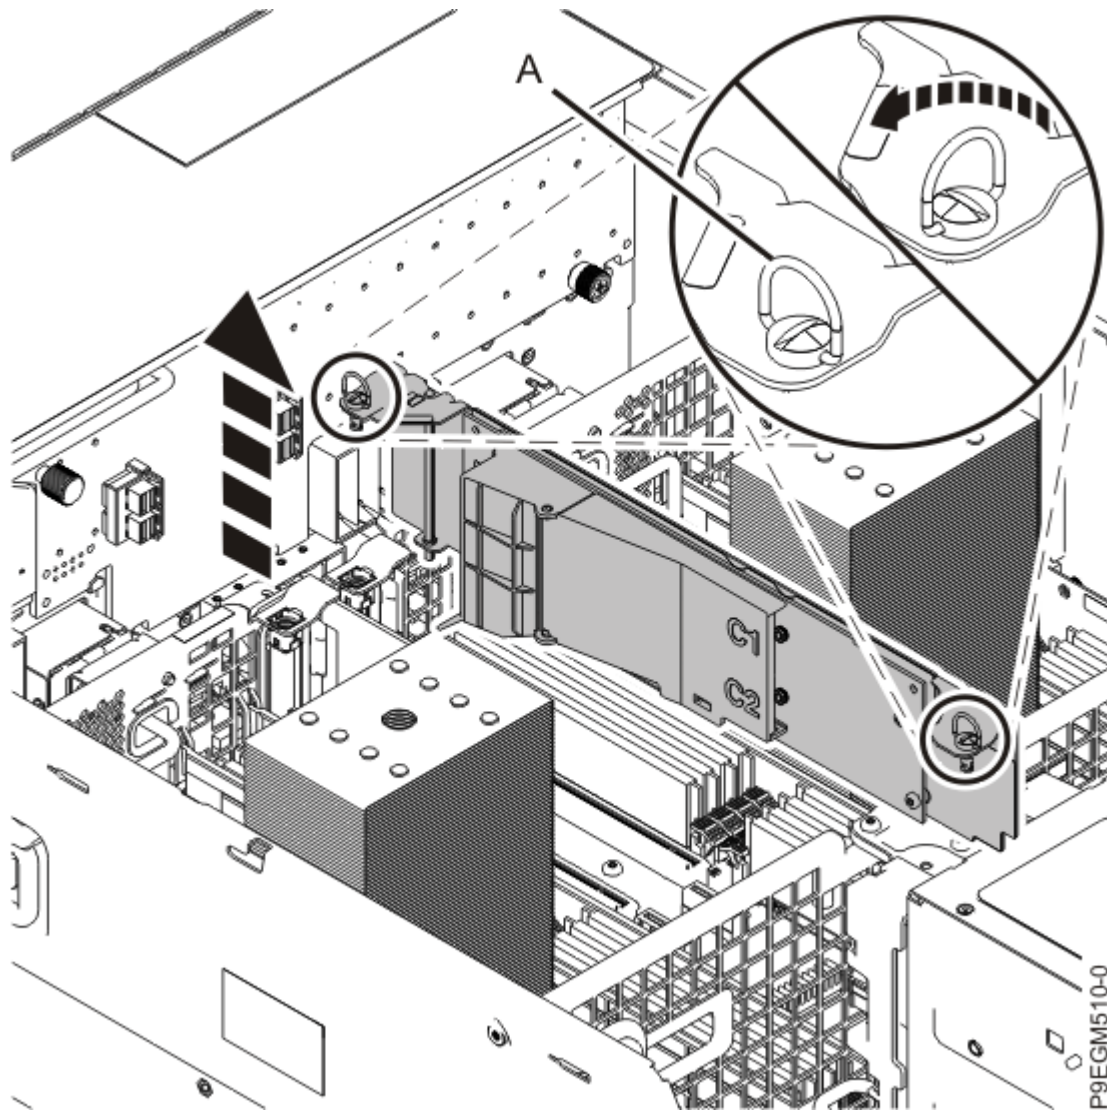

Figure 28. Removing the NVMe M.2 carrier card
4. Lift the NVMe M.2 carrier card out of the slot as shown in Figure 28 on page 34.